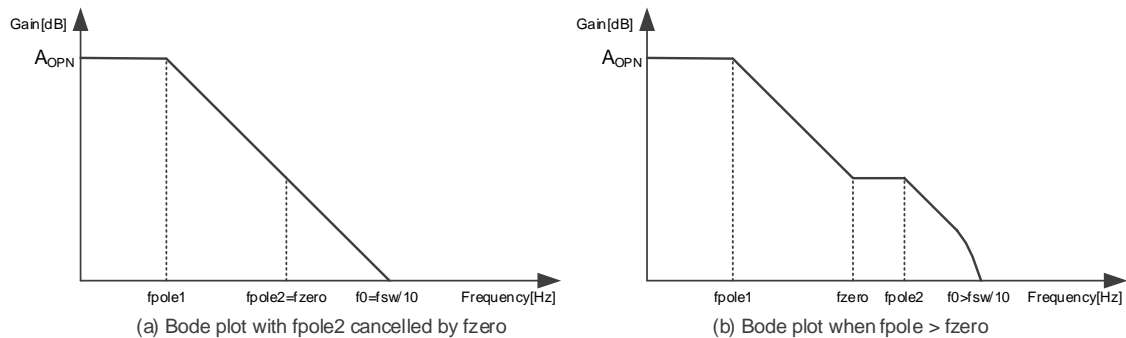

Figure 4-4 Image Diagram of Bandwidth and Phase Compensation for the Buck Switching Regulator
- (1) f_{pole1} : 1st pole determined by gm amplifier output resistance R_{oSR} and phase compensation capacitance (C_5)
- (2) f_{pole2} : 2nd pole determined by VDRV pin output resistance R_{OUT} and output capacitance (C_4)
- (3) f_{zero} : Zero determined by phase compensation resistance (R_6) and phase compensation capacitance (C_5)
- (4) Double pole at half switching frequency ($f_{sw}/2$)
The target bandwidth (f_0) is set to 1/10 or less of the switching frequency (f_{sw}) to avoid stability degradation due to the phase delay of (4). The stability is ensured by setting (1) to match the target bandwidth (f_0) and canceling the pole (2) with the zero (3) (**Figure 4-4 (a)**).
If $V_{DRV} = 12\text{V}$, $I_o = 0.5\text{A}$, $C_5 = 2200\text{pF}$, $C_4 = 5.5\mu\text{F}$ (effective capacitance value), then $R_6 = 60\text{k}\Omega \approx 60.4\text{k}\Omega$. The output capacitor (C_4) on the VDRV pin should be calculated with the effective capacitance value considering DC bias characteristics. The 2nd pole (f_{pole2}) depends on the output capacitance (C_4). If the effective capacitance value is smaller than the value used in the calculation example, the 2nd pole (f_{pole2}) becomes a higher frequency than expected, and the actual bandwidth increases from the target bandwidth (f_0) as shown in **Figure 4-4 (b)**. It causes the double pole (f_{pole1n} , f_{pole2n}) at a frequency of 1/2 of the switching frequency (f_{sw}) to be more susceptible and may affect stability.